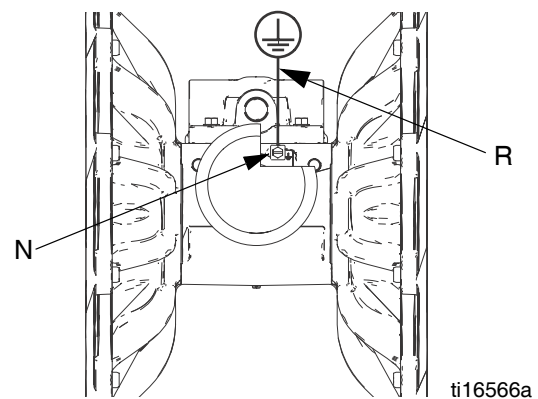

FIG. 3. Grounding screw and wire
- N Ground Screw (Aluminum and stainless steel only, see FIG. 3, page 9)
Pump: See FIG. 3. Loosen the grounding screw (N). Insert one end of a 12 ga. minimum ground wire (R) behind the grounding screw and tighten the screw securely. Connect the clamp end of the ground wire to a true earth ground. A ground wire and clamp, Part 238909, is available from Graco.